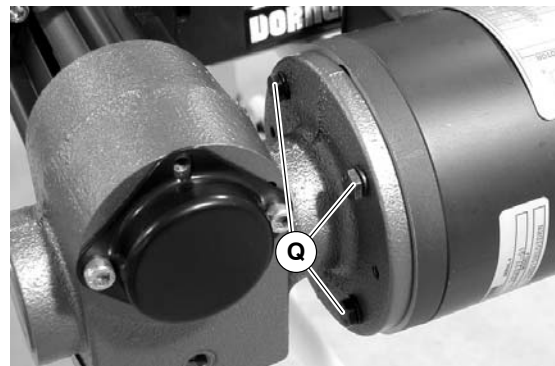

Figure 20
6. Install screws (Q of Figure 20) and tighten to 65 in-lbs (7.3N-m).